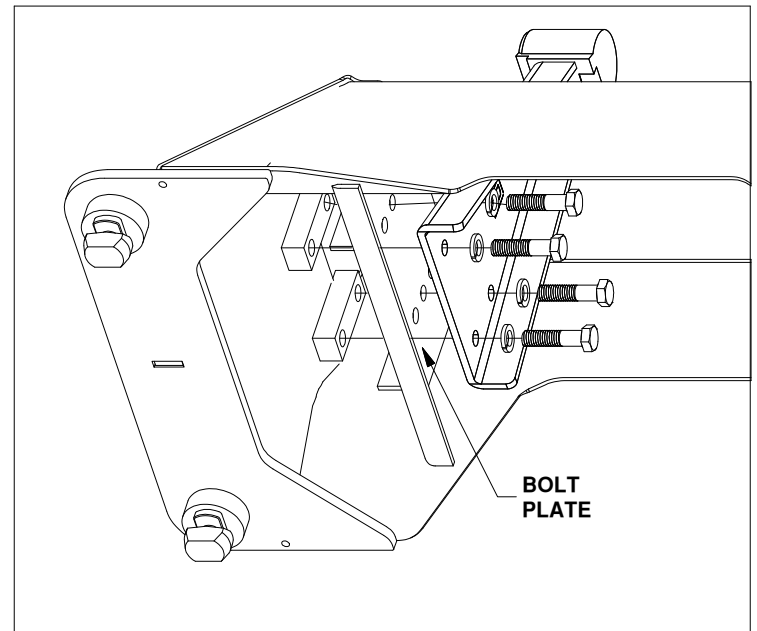

FIGURE A2: Passenger pivot arm mounting location.
2. Locate both pivot arms, the four 3/4" threaded blocks, eight 1/2" cap screws, and eight 1/2" split lock washers. Place the lock washers over the cap screws. Align the flat side of the pivot arm flat against the bolt plate and install four 1/2" cap screws through the holes on the arm, holding the arm in place, as shown in Figure A2. Locate the threaded blocks. Note that the sides of the block have threaded holes on one side and smooth bored holes on the other side. When installing the threaded blocks it is critical that the side with the smooth holes is flat against the bolt plate when installed. Pass the threaded block under the bases side and align the block with each set of screws and start each screw, as shown in Figure A2. After all the screws are started through the arms, torque each bolt to 80 ft-lbs.